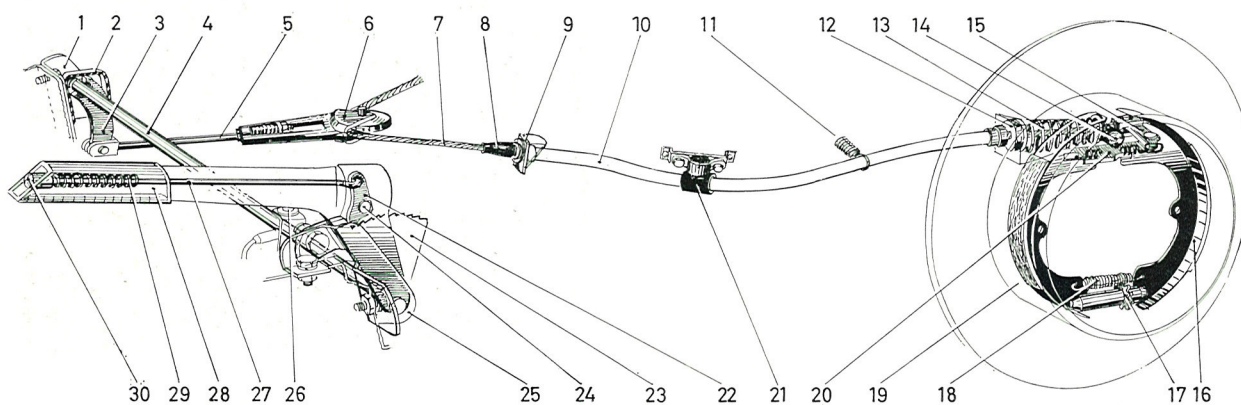

Fig. 5-79. Handbrake system
The construction of the handbrake is shown in Fig. 5-79. The handbrake lever (28) is mounted on the floor on the outside of the driving seat. The movement of the lever is transmitted via the shaft (4), lever and pull rod (5) to the block (6). From here the movement is transmitted through cable (7) to the rear wheel brake units. At each wheel, the movements of the cable influence the lever (15), which is carried in a movable rod (20) on the brake shoes. The upper ends of the brake shoes are held pressed against the
4. Remove the rubber cover (8, Fig. 5-79) from the cable sleeve front attachment and remove the nut. Remove the attachment of the rubber suspension in the frame member. Remove the cable from the other side's attachment in the same way.
2. Remove the split pin and stretch the cable so that the pull rod (5, Fig. 5-79) can be removed from the lever.
5. Unscrew the button (30, Fig. 5-79) and remove the spring (29) from the handbrake lever. Remove the rivet (24) and take out the push rod (27) and the pawl (22).
6. Fit the new parts in the reverse order, see Fig. 5-79. Make sure that the rivet is firmly fixed but does not obstruct the movement of the pawl. Lubricate the bushes with a thin coat of ball bearing grease. Do not forget to lock the pull rod and make sure that the rubber covers seal well.